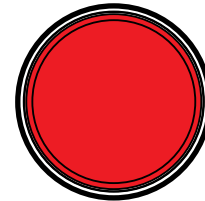

Figure 41. Contactor Open Lamp (ON)
7. Verify that the **Contactor Open lamp** (Figure 41) is **ON (RED)**. This indicates that the contactor contacts are open.